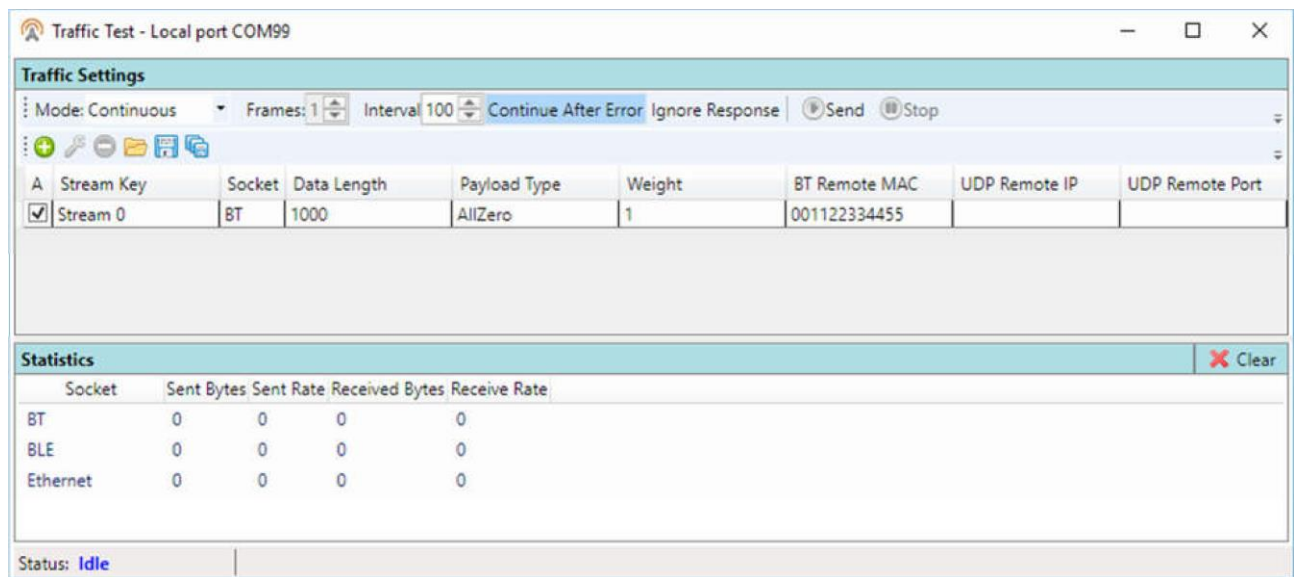

Figure 17 New Stream Added
**Step-3:** Click OK button to finish creating the new stream. As figure 17 shows.